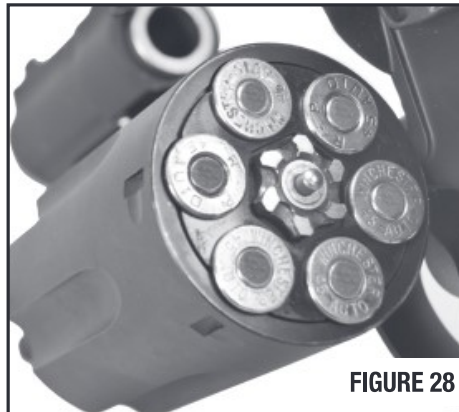

FIGURE 28
- To avoid bending the clips, push the cartridges straight into the moon clip. Load the remaining rounds until the moon clip is full. Place the entire moon clip with loaded rounds into the cylinder charge holes (FIGURE 28).